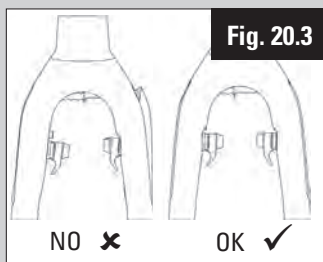

Fig. 20.3
4. Spring tension adjustment (2 mm Allen key, fig. 20.3): adjust the tension of the springs to make the lever movements symmetrical